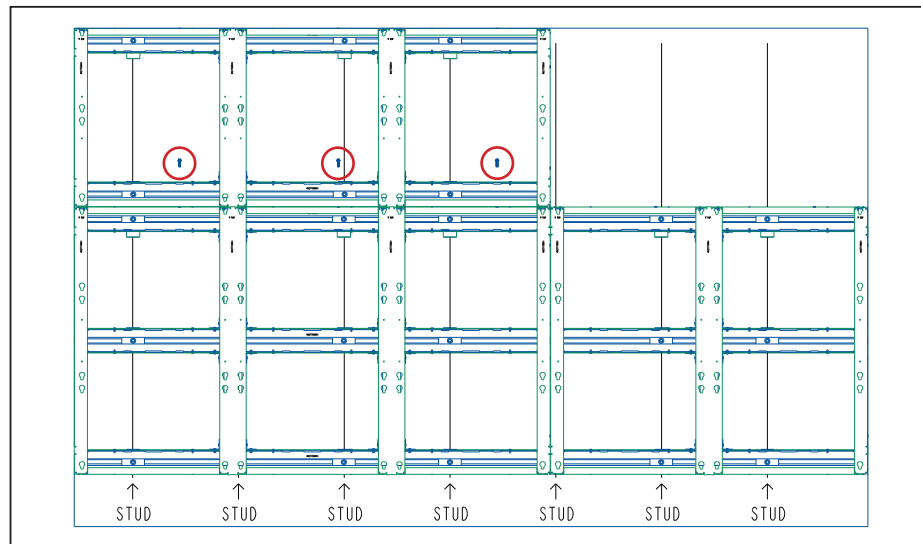
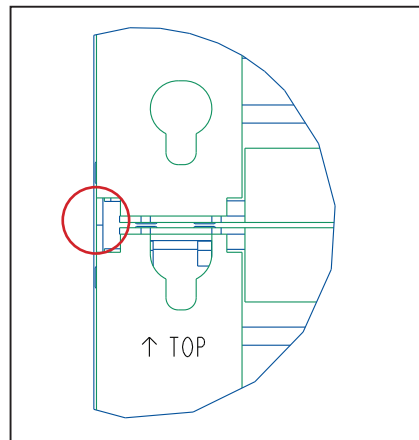
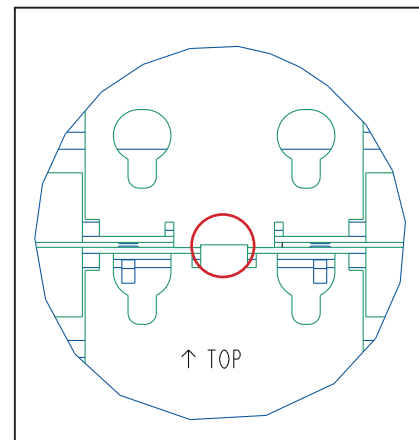

Figure 9: Install Stitch Bolts across Horizontal Seam
Figure 10: Ensure Alignment Tabs Are Flush & Even
Figure 11: Lock X & Y Position
2. Install the supplied stitch bolts across the horizontal seam and tighten to lock the frame into place. Refer to **Figure 9**, **Figure 10**, and **Figure 11**.